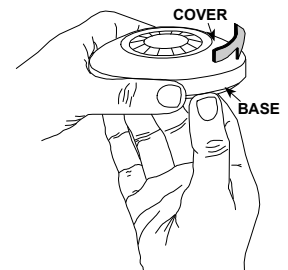

Figure 2 - Removing the Cover
C. Hold the unit base as shown in Figure 2. Rotate the cover counter clockwise until it stops. Separate the cover from the base.